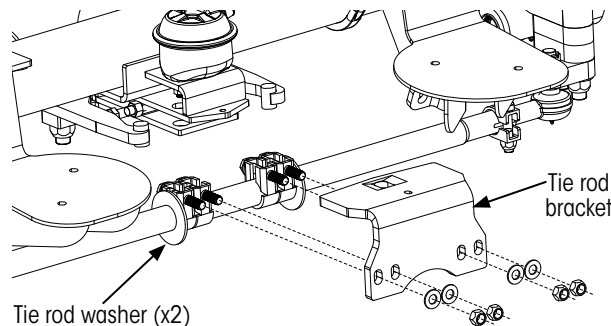

Figure 11: Lock-straight tie rod bracket
1. **Remove** the four tie rod bracket locking clamp bolt, nut and washers (Figure 11). **Save** for reassembly.